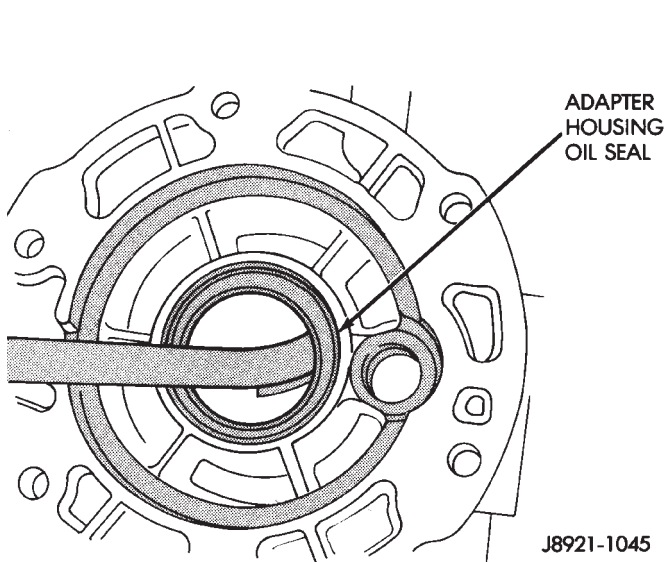

Fig. 15 Removing Adapter Housing Seal
- (16) Remove adapter housing oil seal with a pry tool (Fig. 15).